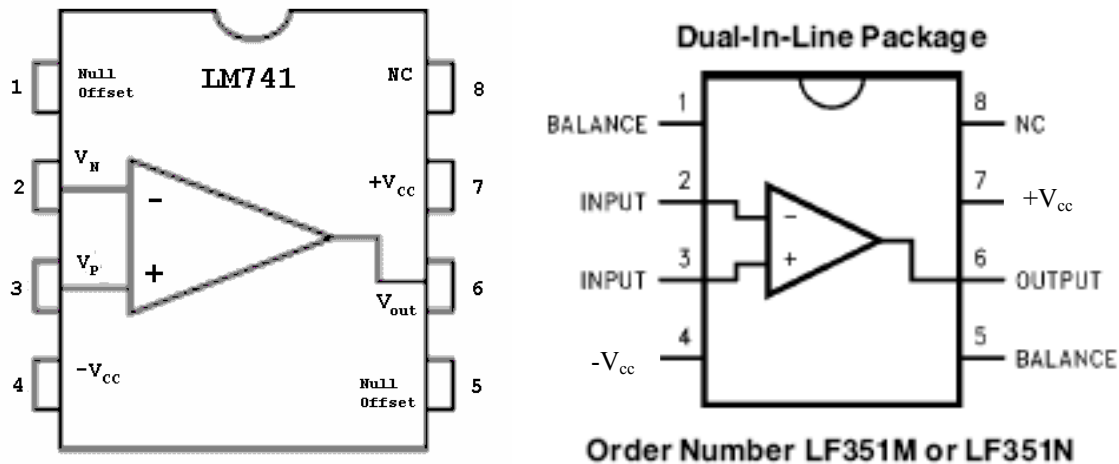

Figure A-4
*The op-amp chip:* Study the chip layout of the LF351 and 741 op-amps is shown in figure A-4. Both have the same pin numbers and names. Either op-amp can be used without changing the circuit. The standard